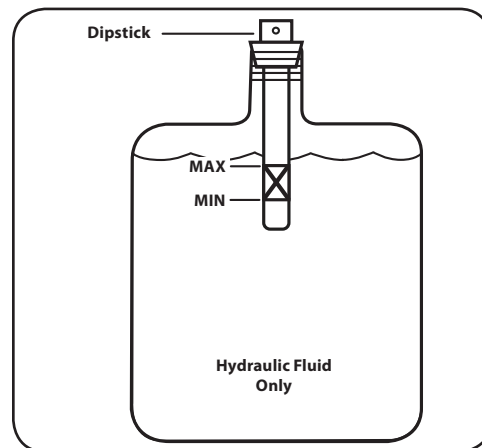

Figure 5-4
12. Refill the reservoir within range marked on the dipstick. See Figure 5-4.